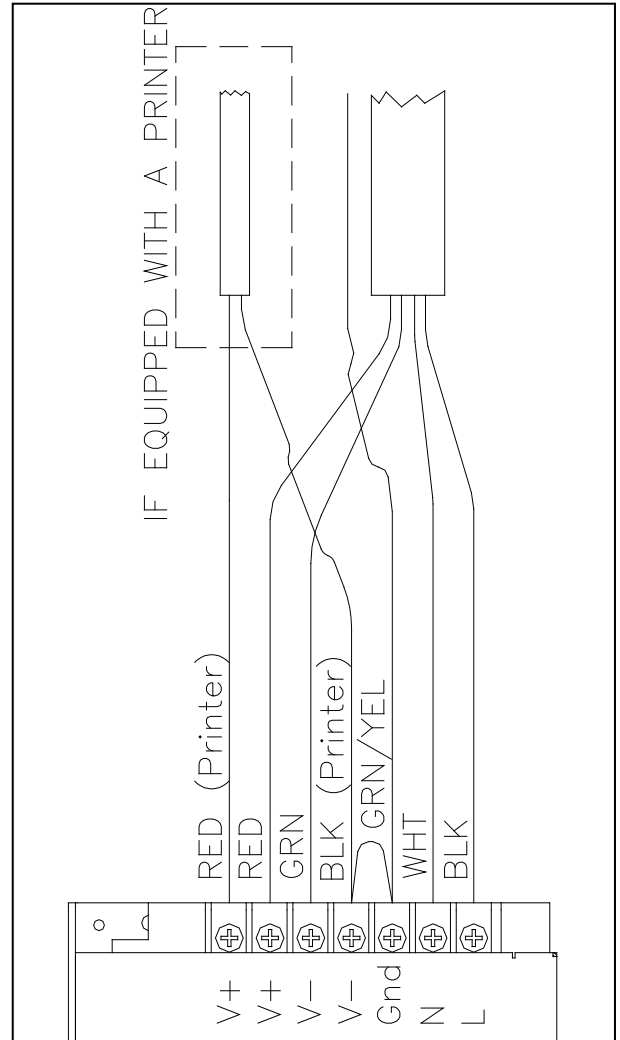

Figure 3-36. 24 VDC Power Supply
7. Reconnect all wires to the Power Supply (Figure 3-36).